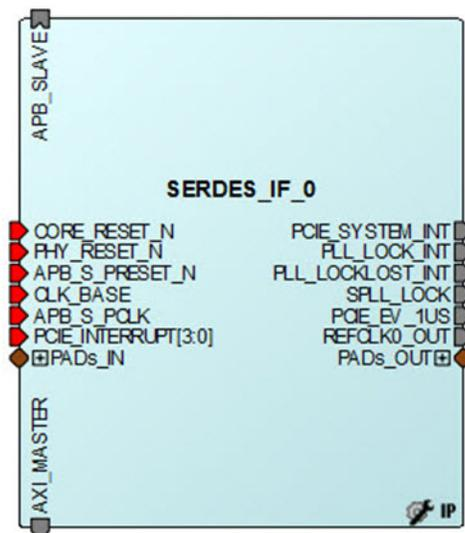

Figure 1 • SERDES Block Instantiation on the SmartDesign Canvas
1. Instantiate the High Speed Serial Interface (SERDES) core from the Catalog into the SmartDesign Canvas, as shown in Figure 1.